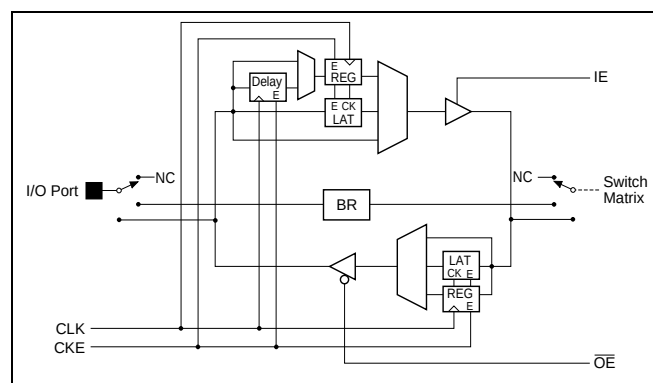

Figure 4. Programmable I/O Port
Each signal line in the Switch Matrix is connected to a programmable I/O Port. The functional attributes of individual I/O Ports can be programmed independently. The I/O Port attributes include its signal direction (in, out or bidirectional), data flow mode (flow-through, registered or latched), and pull-up current. Figure 4 shows the structure of the programmable I/O Port. The sources for the four control signals: clock (CLK), clock enable (CKE), input enable (IE), and output enable (OE) are also programmable and are described later in the section “I/O Control Signals.”